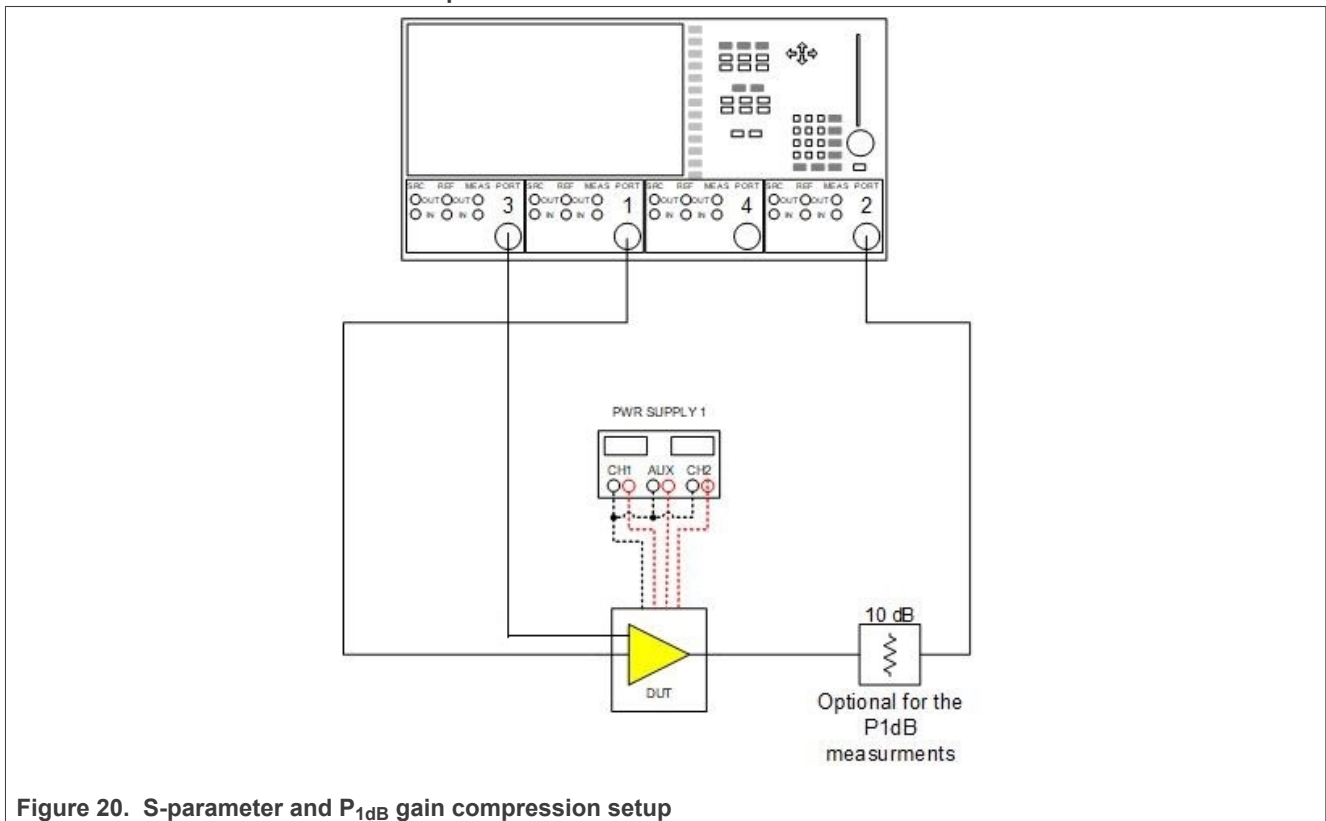

Figure 20. S-parameter and P_{1dB} gain compression setup
The measured S-parameters and Rollett stability factor K, are given in the graphs below. For the measurements, a typical BTS6302U EVB is used. All the S-parameter measurements have been carried out using the setup Figure 20.
The P_o and Gain are measured versus P_i using the setup shown in Figure 20.
1. Connect the EVB to a calibrated network analyzer see Figure 20, we advise the following settings for S-parameter measurements: